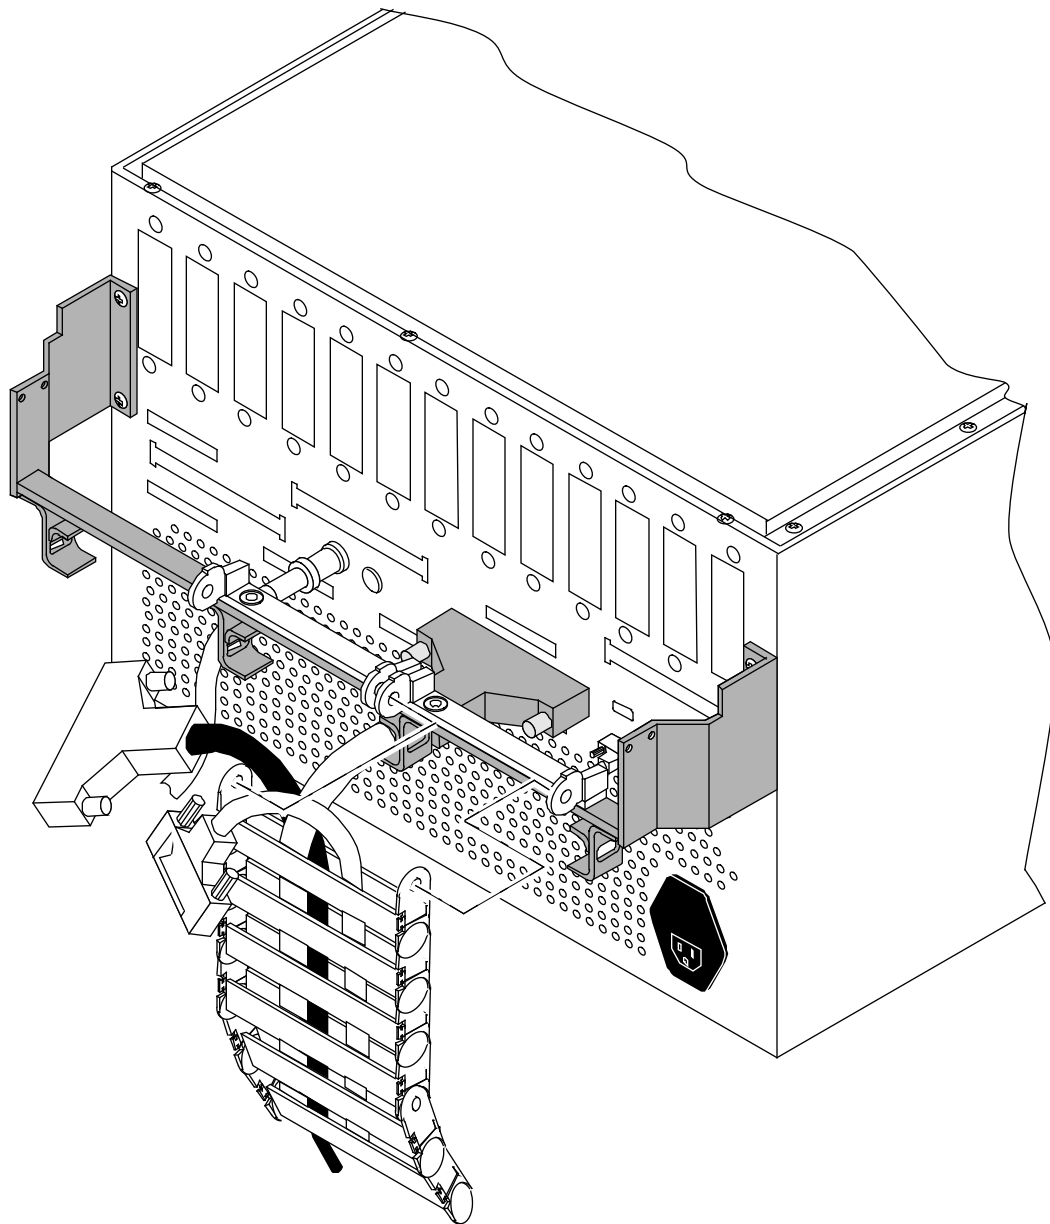

Figure 4. Flexible Cable Way
2. Disconnect the flexible cable ways by removing the two screws that secure them to the VME tray. Refer to Figure 4. You may also snap the top crossbar out.
5. Reconnect the flexible cable way using the two screws originally removed from the flexible cable-way bar. Refer to Figure 4.